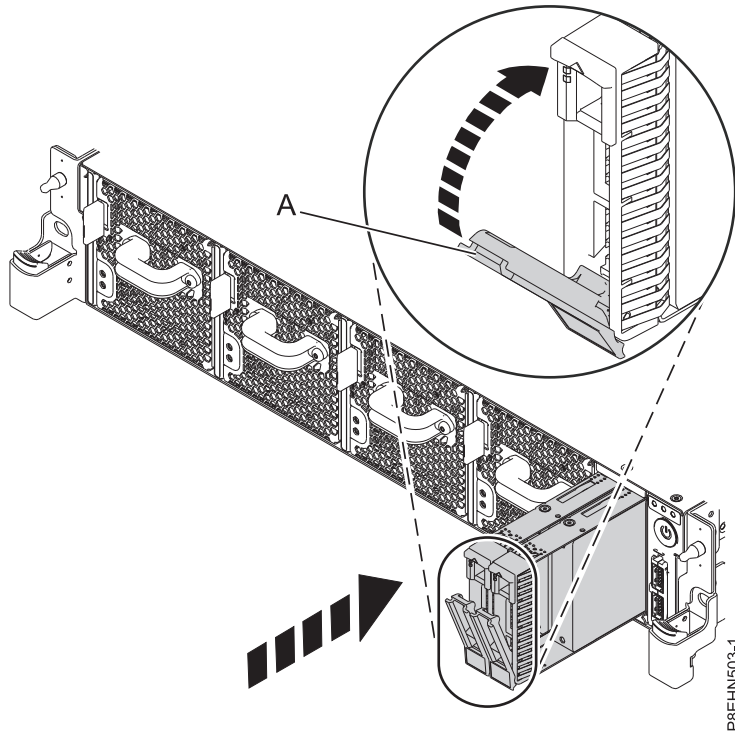

Figure 48. Disk drive lock detail
3. Lock the drive bay handle (A) by pushing in the handle release. See Figure 48 on page 38.